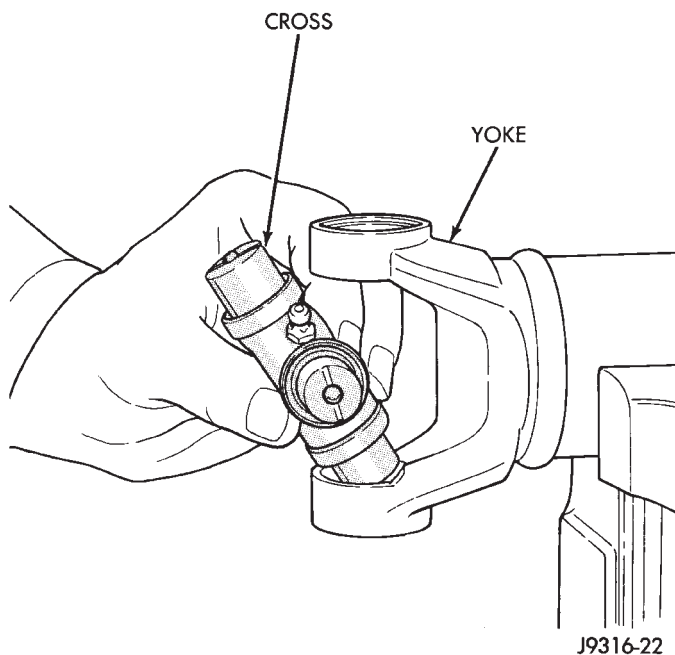

Fig. 21 Install Cross In Yoke
(1) Apply extreme pressure (EP) N.L.G.I. Grade 1 or 2 grease to aid in installation.
(2) Position the cross in the yoke with its lube fitting (if equipped) pointing up (Fig. 21).